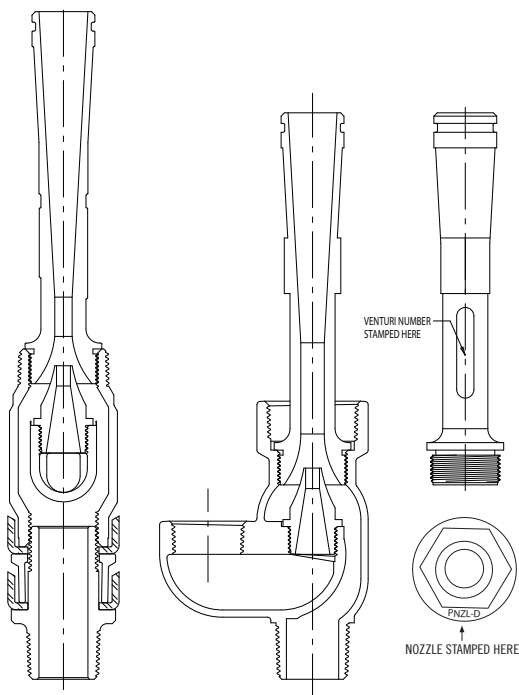

Figure 1
2. Use TABLE 2 to select the correct nozzle and venturi to create your selected jet number. 3. Install the proper nozzle and venturi in the jet body. Refer to Figures 1 and 2 for proper installation.